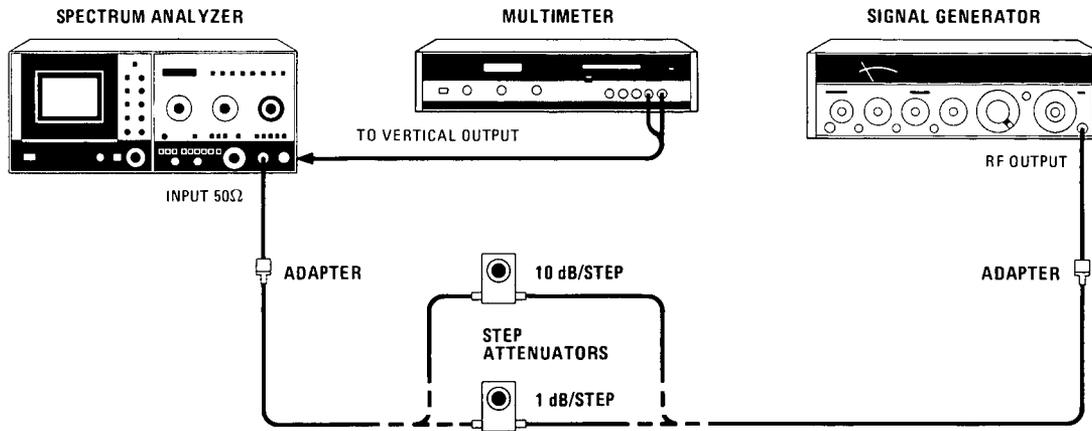

Figure 4-20. Display Accuracy Test Setup
- c. Connect equipment as shown in Figure 4-20 using 10 dB/step attenuator. Set step attenuator to 0 dB. Set signal generator for an unmodulated 30 MHz output at approximately 0 dBm.